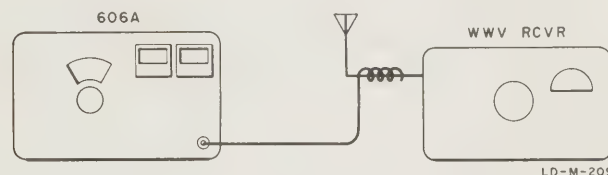

Figure 4-4. Frequency Calibration
c. Lightly couple a single wire from the RF OUT jack of the Model 606A to the antenna as shown in figure 4-4.